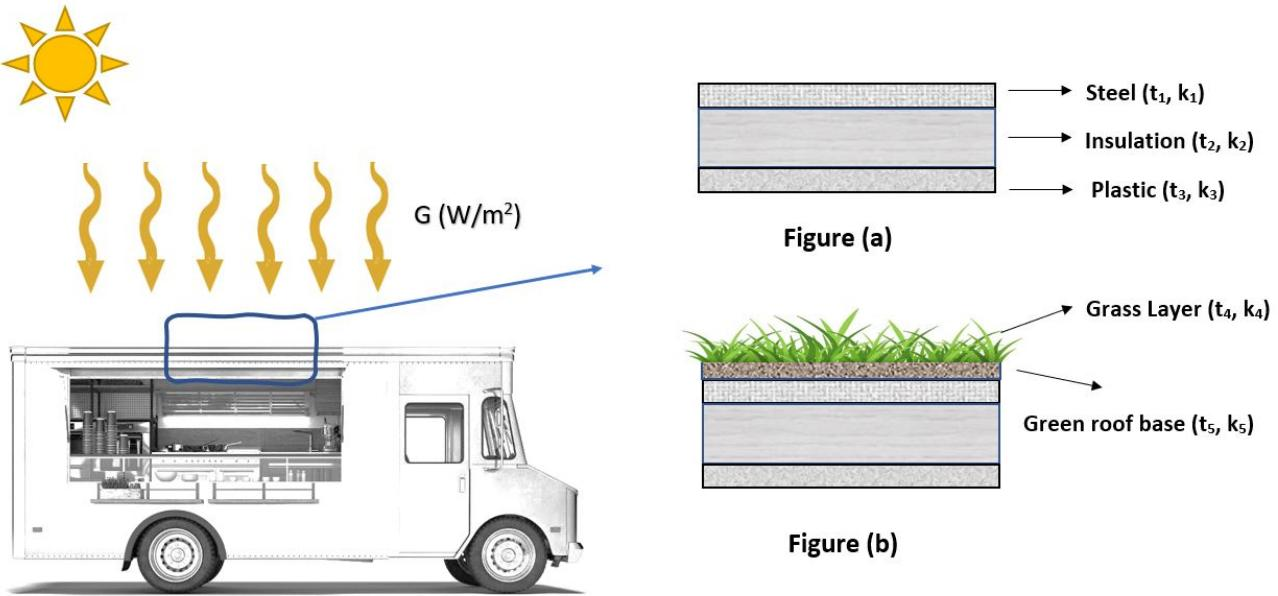

Figure 6.1: Cross-section of the food truck roof.
During scorching summer days, the food truck crafted by UT IDE students sets up near the sports center. The outdoor temperature sizzles at $T_i = 35^\circ\text{C}$, with still air and a sunny blast of solar energy at $G = 1100 \text{ W m}^{-2}$. In the original design, captured in Figure 6.1 (a), the roof of the food truck compartment embraces a composite structure. This blend involves insulation ($t_2 = 60 \text{ mm}$, $k_2 = 0.036 \text{ W m}^{-1}\text{K}$), snugly nestled between a steel panel ($t_1 = 4 \text{ mm}$, $k_1 = 130 \text{ W m}^{-1}\text{K}$) atop, boasting a reflectivity of 0.9. Beneath, an interior plastic panel ($t_3 = 5 \text{ mm}$, $k_3 = 0.26 \text{ W m}^{-1}\text{K}$) wraps up the ensemble.
- One of the group members suggested using a green roof for the food truck, as shown in Figure 6.1 (b), to save energy for cooling by adding grass layer ($t_4 = 10\text{mm}$, $k_4 = 0.038 \text{ W m}^{-1}\text{K}$) with reflectivity of 0.95 and green roof base layer ($t_5 = 15\text{mm}$, $k_5 = 0.36 \text{ W m}^{-1}\text{K}$). Determine the temperature of the roof surface and the temperatures of each layer, and then draw a temperature profile within the roof structure and outside air.